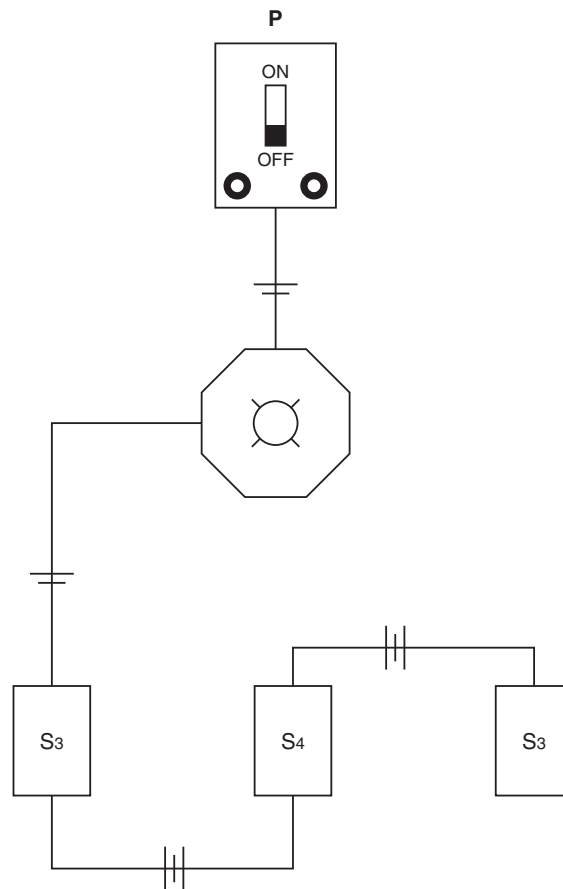

Figure 9-19 Second circuit for connection.
7. Reposition the two- and three-conductor cables as shown in Figure 9-19.